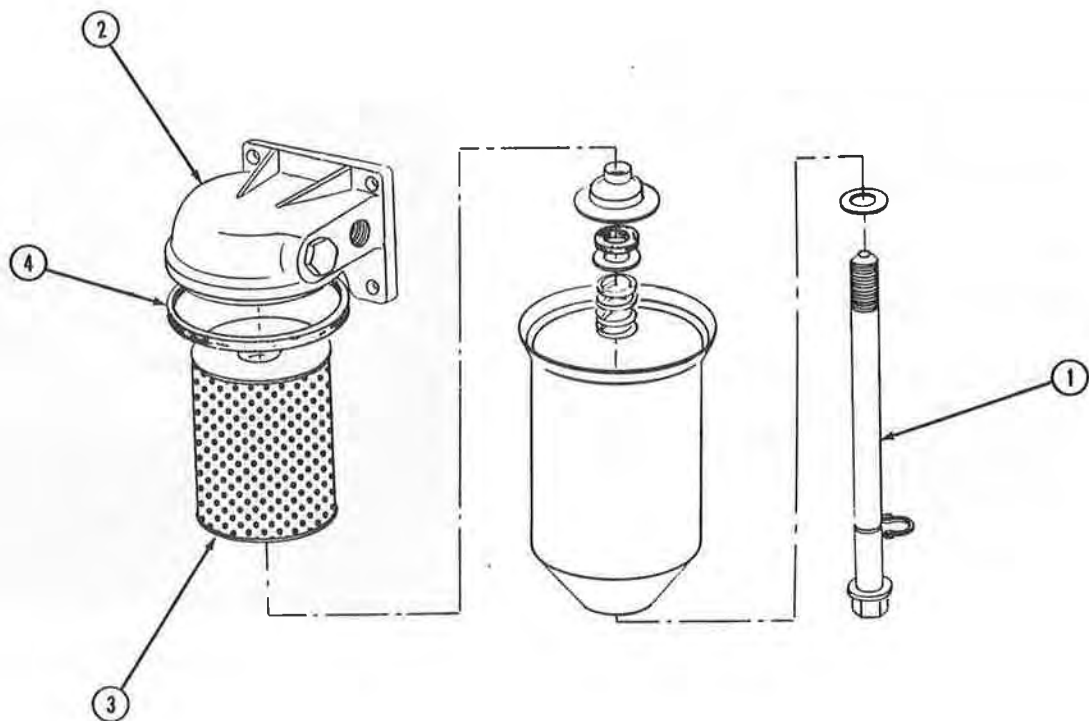

Figure 177
3. Unscrew shell retaining bolt (1, Figure 177) from head assembly (2). Remove dirty filter element (3) and shell assembly from head. Discard dirty filter element.
4. Wipe off all components to remove foreign particles. Be sure that seal gasket (4) and mating surfaces are thoroughly cleaned.